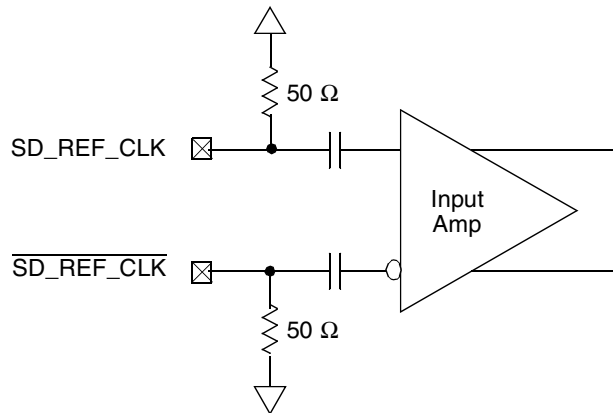

Figure 38. Receiver of SerDes Reference Clocks
Figure 38 shows a receiver reference diagram of the SerDes reference clocks.
- The  $SD\_REF\_CLK$  and  $\overline{SD\_REF\_CLK}$  are internally AC-coupled differential inputs as shown in Figure 38. Each differential clock input ( $SD\_REF\_CLK$  or  $\overline{SD\_REF\_CLK}$ ) has a 50- $\Omega$  termination to XCOREVSS followed by on-chip AC-coupling.